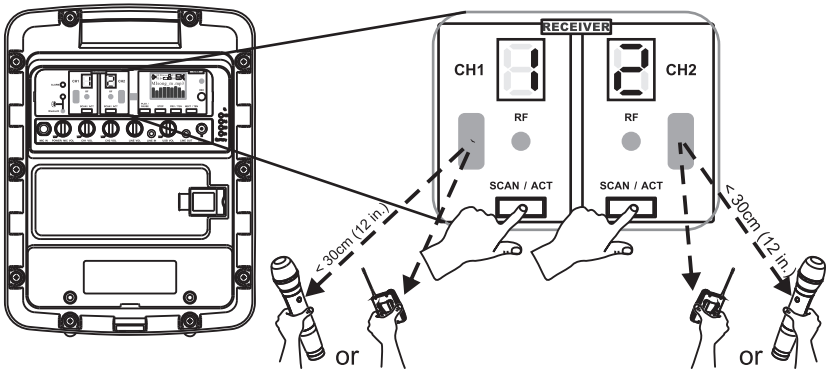

Fig. 6
- (1) Press and release SCAN/ACT button, the current channel blinks and is ready for ACT synchronization.
- (2) Power on handheld or bodypack transmitter. Bring the transmitter sync port (red indicator) within 30 cm (12-inch) of CH 1 or CH 2 receiver sync port, Fig. 6.
- (3) Once ACT synchronization is done, the channel screen will stop blinking and RF indicator glows green to indicate a successful RF link.
- (4) To cancel an accidental activation of ACT function, just press SCAN/ACT button again.